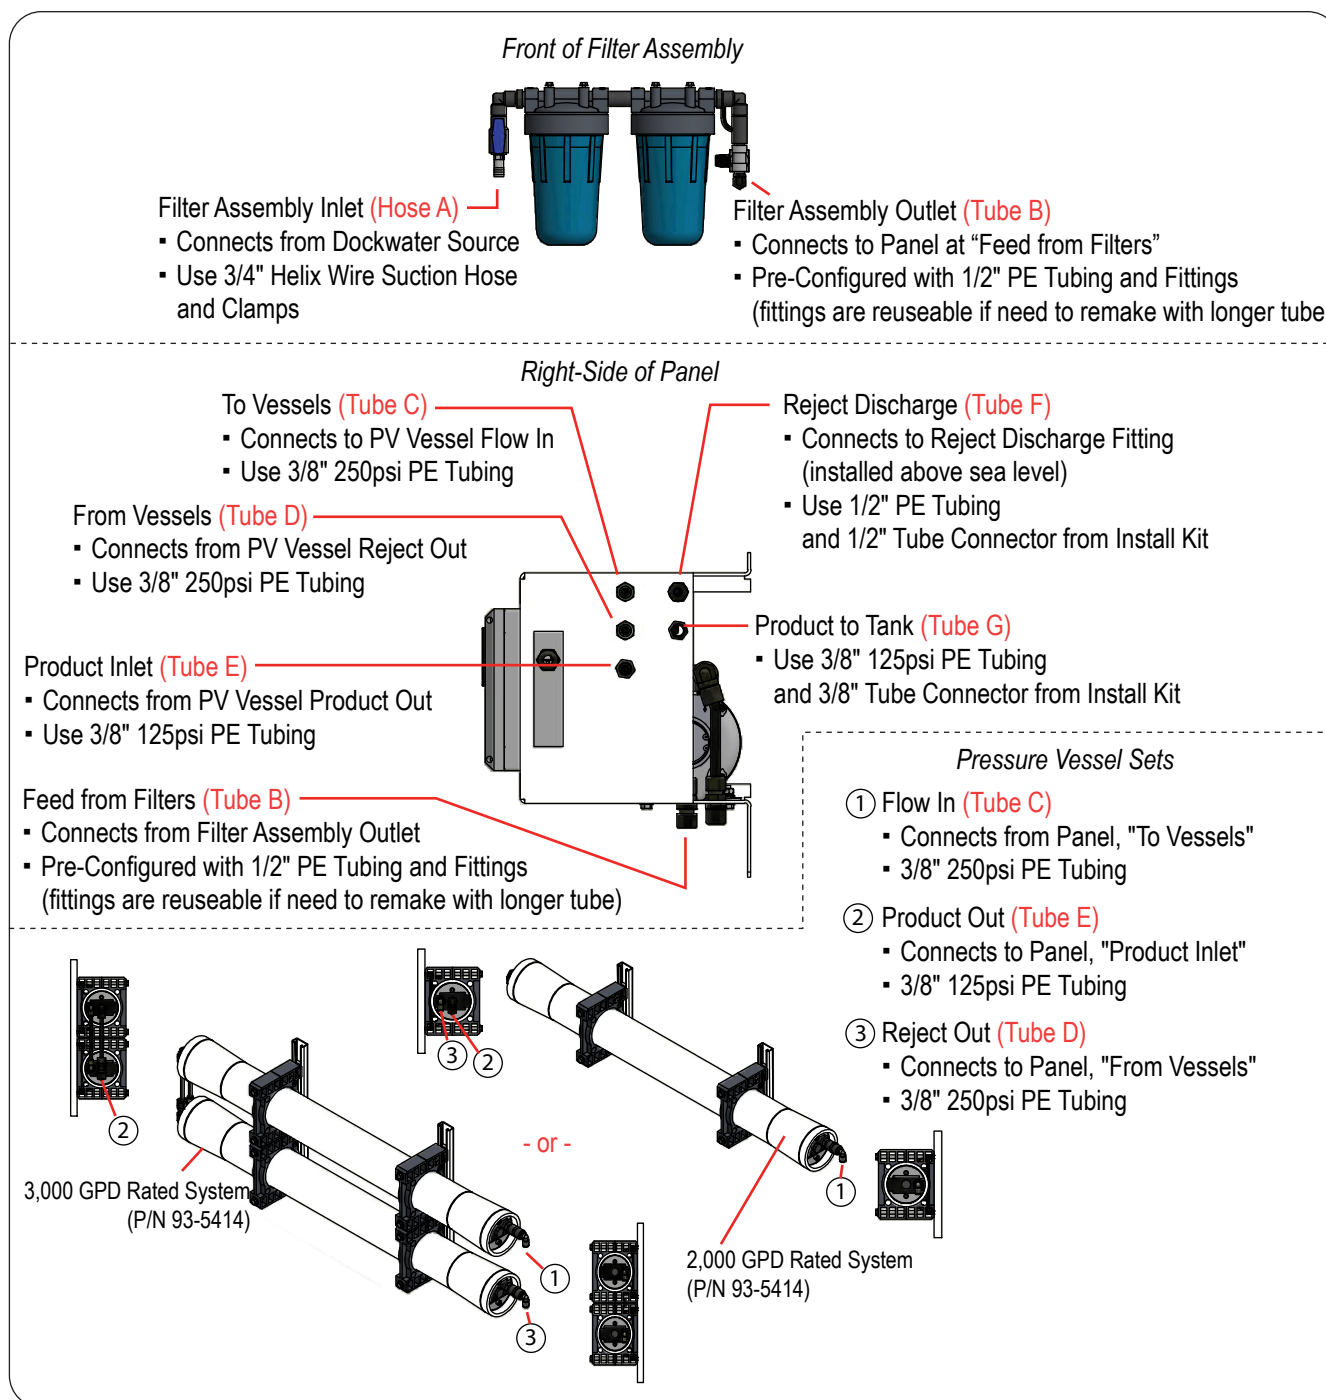

Figure 14: Plumbing Connections
Table 2 lists the all the plumbing connections by letter, and Figure 14 shows the connections on the components. Work through each tube or hose in the table, one-at-a-time until complete.
2. Identify where the two ends connect. Use the "General Connection Diagram" on page 33 and Figure 14 on page 37.